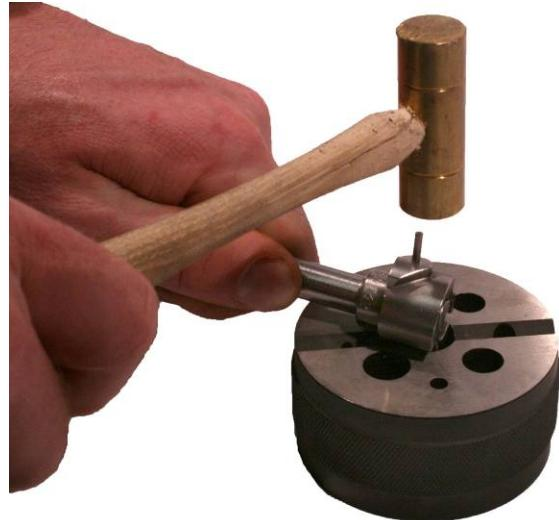

Figure 9. Installing the Firing Pin Retaining Pin.
5. Using a hammer, LIGHTLY tap in the firing pin retaining pin until it is flush. Refer to Figure 9.